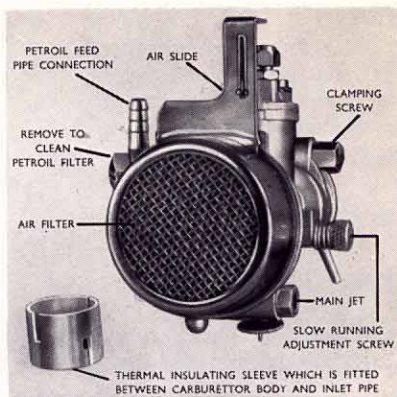

FIG. 4
(2) The Carburettor (see diagram). (Fig. 4).
The special fuel-filter inside the fuel-inlet into the carburettor may become clogged by impurities, and fine impurities are likely to pass in time through the filter into the carburettor, causing a blockage of the jet. To clean the fuel filter, unscrew fuel pipe banjo connection holding bolt (see Fig. 4), remove the fuel filter and clean thoroughly by blowing air through same or flushing in clean petrol.
Remove the carburettor float and place safely to prevent damage. Remove carburettor upper cap by releasing its retaining screw and withdraw throttle-slide without disturbing the carburettor control-cable arrangement. Take off carburettor body by releasing clamping screw (Fig. 4).
When refitting the carburettor to the manifold stub which is bolted to the cylinder ensure that the slot in the thermal insulating sleeve (Fig. 4), does not line up with the slot in the carburettor body. If these two slots coincide an air leak will occur.